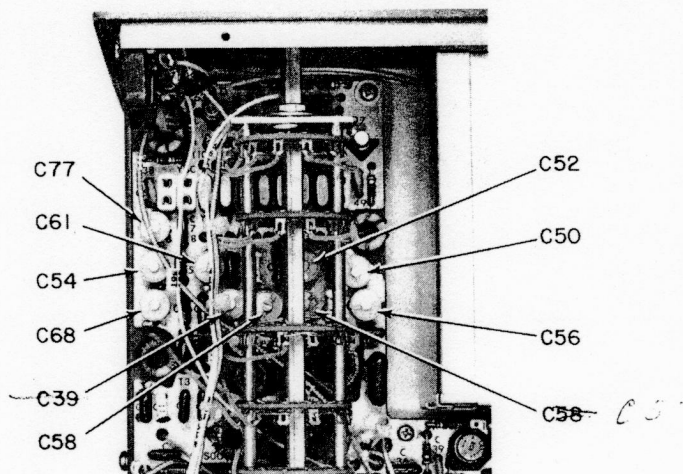

Figure 5-4. Location of Front End Board Trimmers
2. Set the "MHZ" band switch to the position that is still out of calibration and slightly adjust the applicable trimmer (see Figure 5-4) for a zero beat.